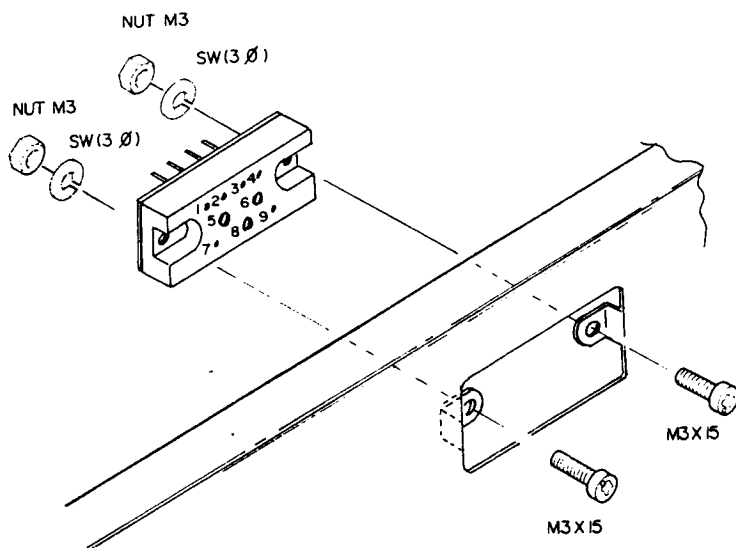
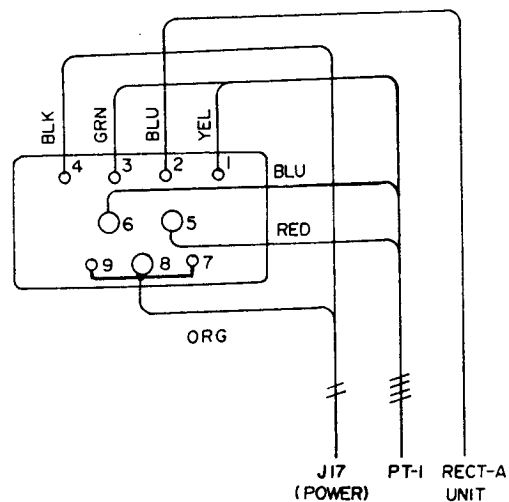

Figure 5
Figure 6
- (1) Remove the seal covering the chassis cutout for the DC-DC converter installation on the rear panel, and install the 9 pin connector supplied with the kit on the chassis cutout, as shown in Figure 5.
- (2) Remove the nylon clamp binding the 7 wires, and slip off the vinyl tube from the wires. Then, insert each of the wires (except the orange wire) into the short transparent vinyl tube supplied with the kit, for insulation.
- (3) Solder the 7 wires to the appropriate pins of the connector, as shown in Figure 6.